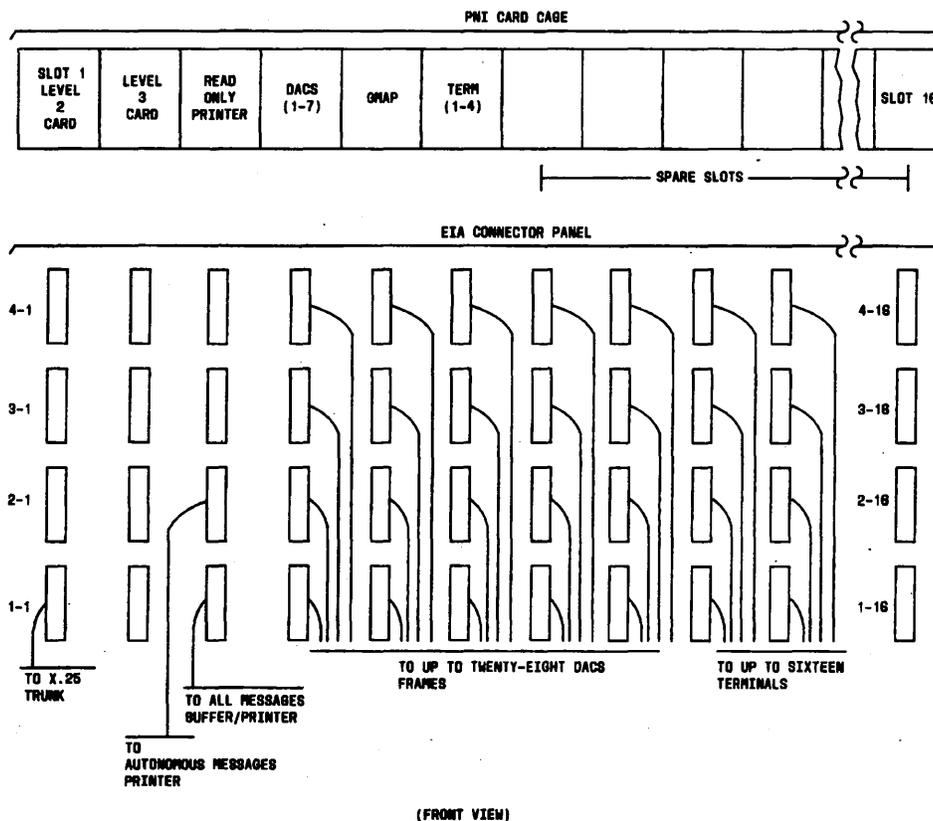

Fig. 3—EIA Connections
8. Connect data cables to the DCO-PNI EIA connector panel. (See Fig. 3.)
2. Verify that all power and data cable connections are correct, and the connections are tight (see Fig. 3) for placement of data cables.